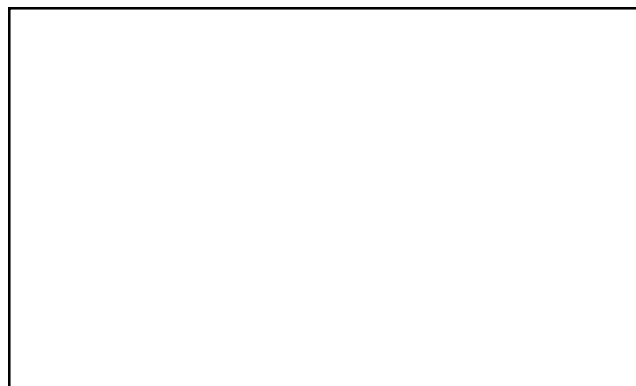

Figure 6-1. Pike pole method
(1) *Pike pole method.* Figure 6-1 illustrates the pike pole method. This is the earliest method of raising poles and should be employed when a truck cannot be brought in. A jenny initially supports the pole and a cant hook keeps the pole from rolling. The bumpboard protects the wall of the hole from being caved in by the pole butt. Pikers, lift the line pole, by punching into the pole the steel spikes of the pike poles. The number of pikers required increases with the pole length as shown in table 6-1.